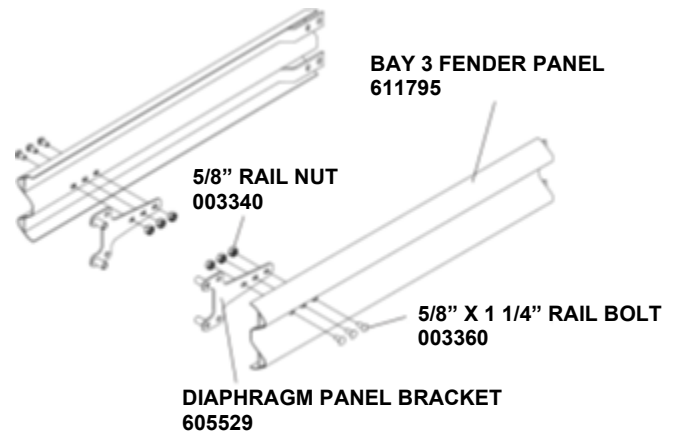

Figure 6
- a. Bolt the Diaphragm Panel Brackets to the Bay 3 Fender Panels (Figure 6). Hand-tighten nuts.